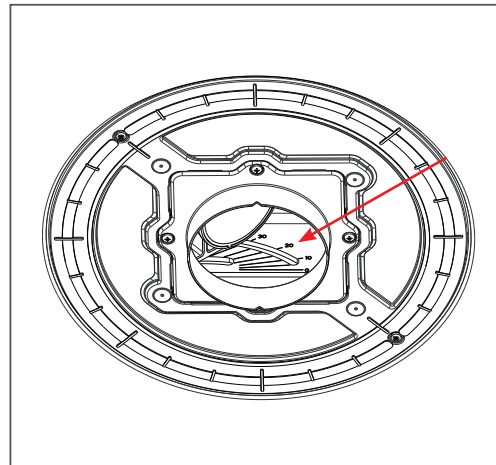

fig. 25 (degree indicators)
5. Use the degree indicators that are opposite of the tilt controls to determine the tilt angle (see fig 25).